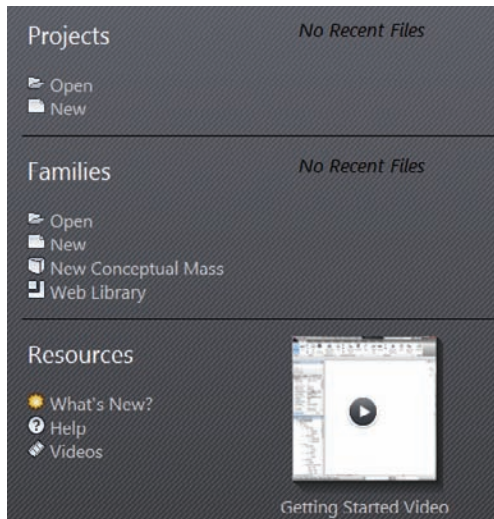

FIGURE 1.3 The Recent Files window lists any recent projects or families you've worked on.
2. After you start Revit, you see the Recent Files window shown in Figure 1.3. The top row lists any projects you've been working on; the bottom row lists any families you've been working on.